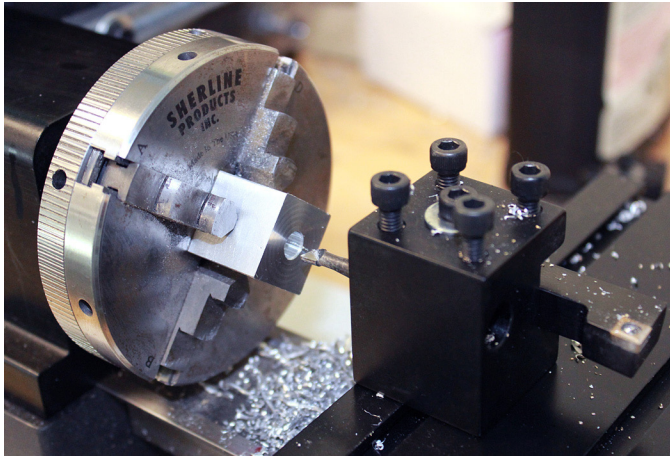

FIGURE 4—Boring the first hole to .240 diameter and .267" deep.
2. Rough and finish bore the .240" diameter x .267" deep on all sides. Machine the cube by cutting opposite sides (if it were numbers on a dice you would machine the side with (1) and then the side with (6) etc.). (See Figure 4.)